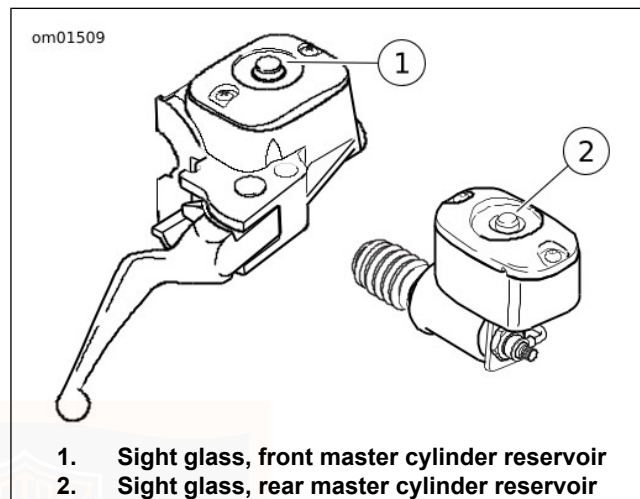

Figure 36. Brake Fluid Sight Glass (typical)
1. See Figure 36. Look through the sight glass on the front and rear brake fluid reservoirs to check for the presence of brake fluid. If necessary, turn the handlebars from side to side or gently shake the vehicle to agitate the fluid.